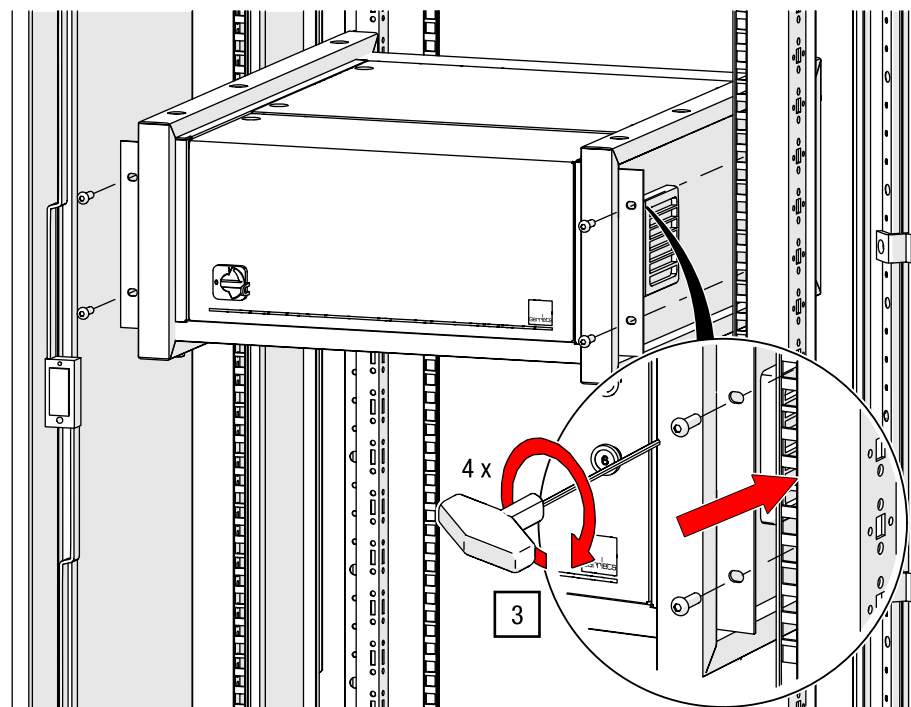

Fig. 35: Securing the G-FRAME control unit into the rack
3. Position the G-FRAME control unit in the 19-inch rack and secure it using suitable on-site mounting hardware (see Fig. 35).